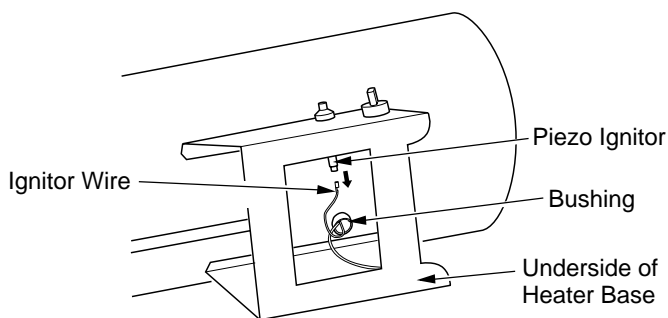

Figure 14 - Removing Ignitor Wire from Piezo Ignitor
2. Remove black ignitor wire from piezo ignitor. Access ignitor wire through underside of heater base (see Figure 14). Push wire up through bushing in heater shell.